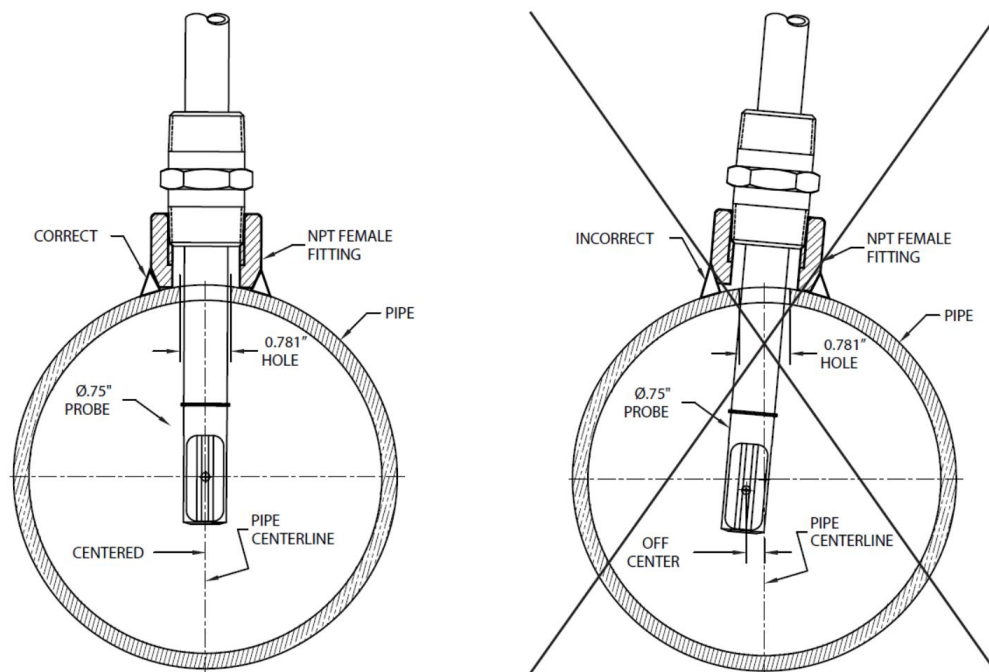
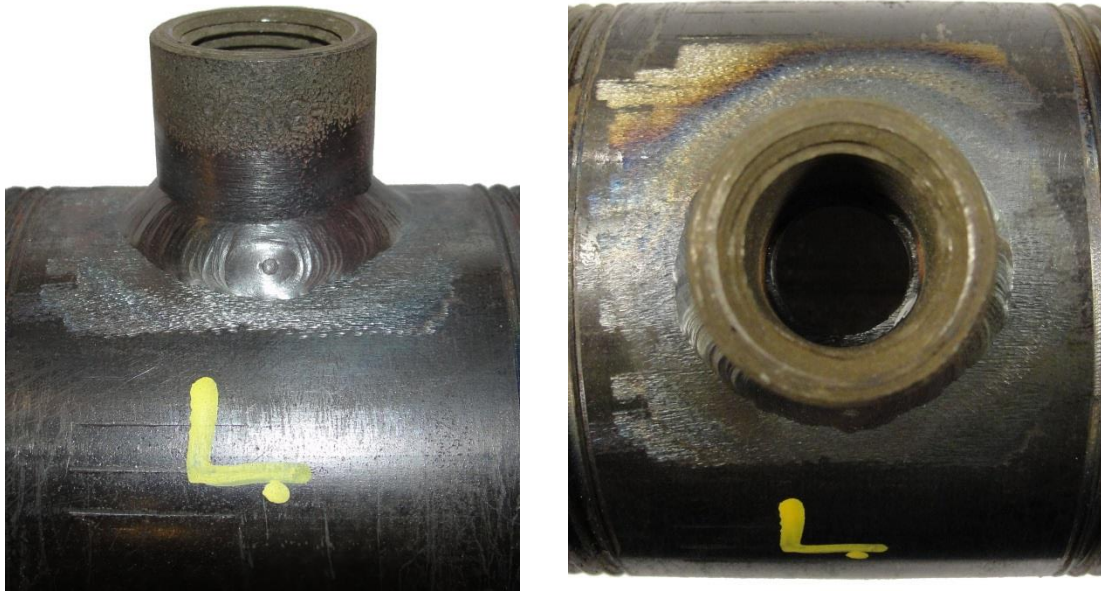

Figure 4: Mounting a 3/4" NPT Half Coupling on the Pipe Centerline
Figure 5: 3/4" NPT Half Coupling Welded to Pipe with 13/16" Hole Drilled Through Center
4. For insertion type meters - if a 3/4" NPT or larger half coupling is not available in a suitable location, one will need to be welded onto the pipe with a 13/16" (0.813") or larger hole drilled through the pipe wall in the center of the half coupling. The coupling must be parallel to the pipe centerline, as shown in Figure 4, so that the probe can be inserted into the center of the pipe at a later step. The pipe should look similar to Figure 5 before the tube fitting and meter probe are installed.